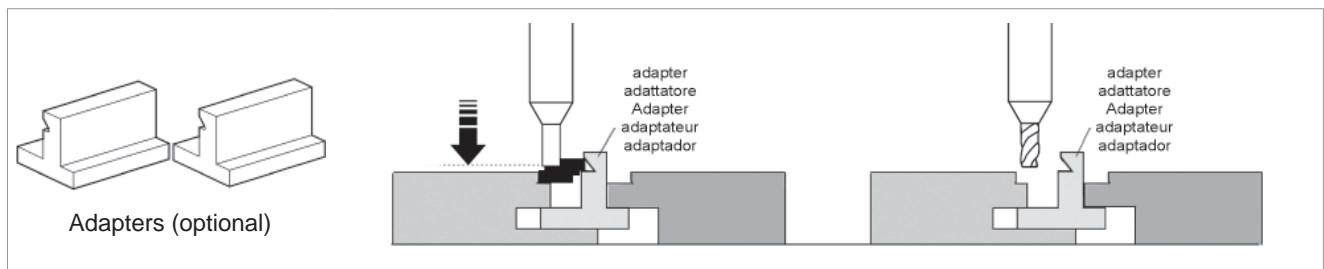

Fig. 27
- 1) Open the clamps by loosening knobs (E) and (E1).
- 5) Secure adapter and key by tightening knob (E).
- 7) Use lever (J) to lower the vertical carriage, without exerting too much pressure, until the tracer rests in the bottom of the cut on the original key (Fig. 27) and secure the spindle at this height by means of knob (R).
- 11) Start the cutting operation by activating switch (Q).